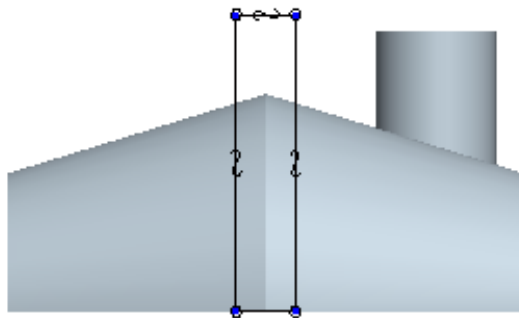

Figure 13-94 Sketch of the fill surface
- f. Create the two fill surfaces that will cap the ends of the base surface, refer to Figures 13-94 through 13-96.
5. Choose the **Create an entity from an edge** button and select the edges of the base feature. Complete the sketch as shown in Figure 13-94.